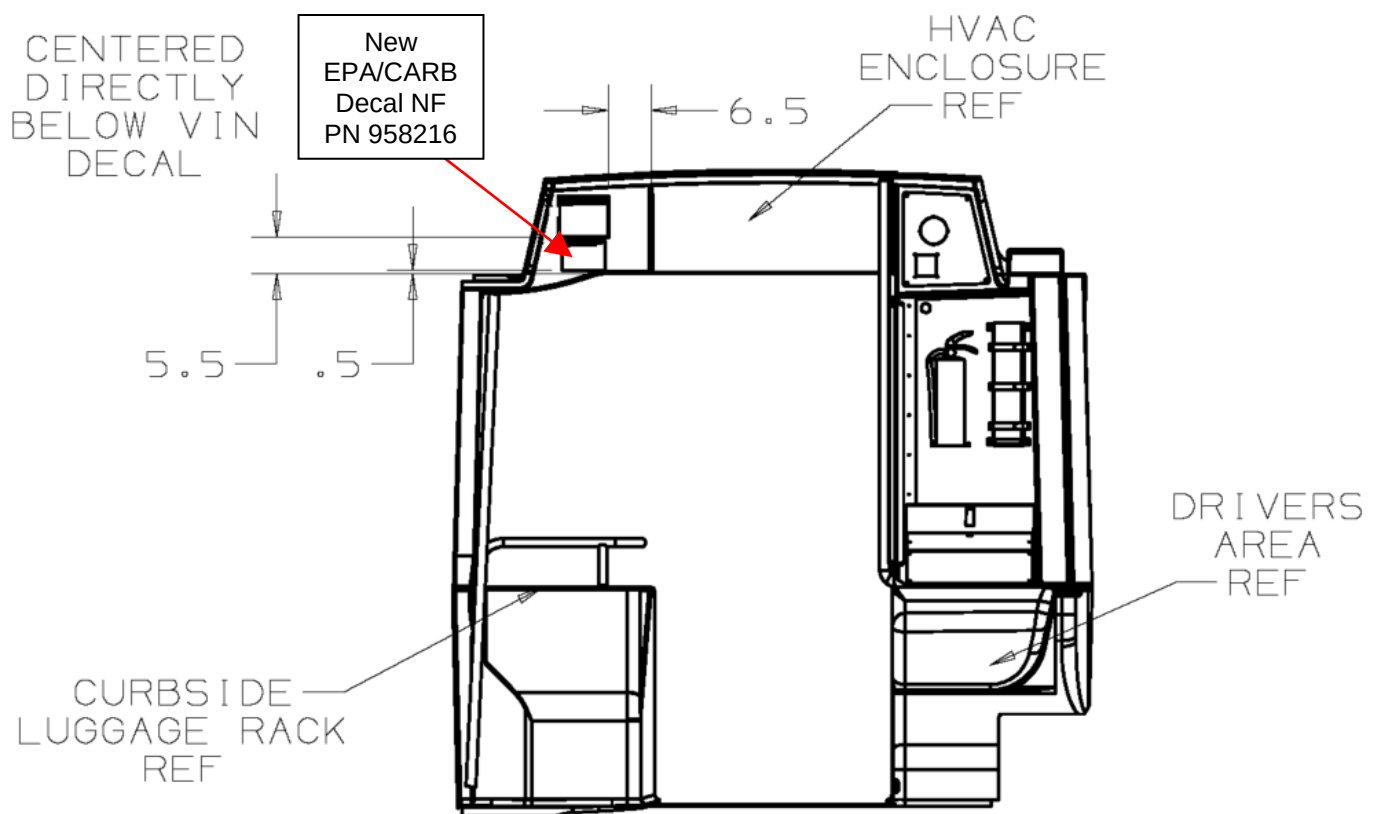

Figure 1 – EPA/CARB Decal Location
3. Remove and discard the existing EPA/CARB decal. See Figure 1.
5. Install new EPA/Carb decal (NF PN 958216). Center the new decal directly below the VIN decal as shown in Figure 1.